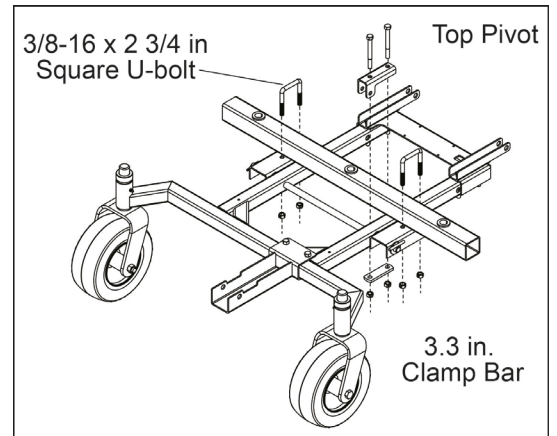

Figure 1-4
Refer to Figure 1-4
2. Attach actuator top pivot to caster bar using two 3/8-16 x 3 1/2" hex head bolts, a 3.3" clamp bar and 3/8" two-way locknuts as show in figure 1-4. Do not tighten at this time, it will be tightened when aligned with the actuator.